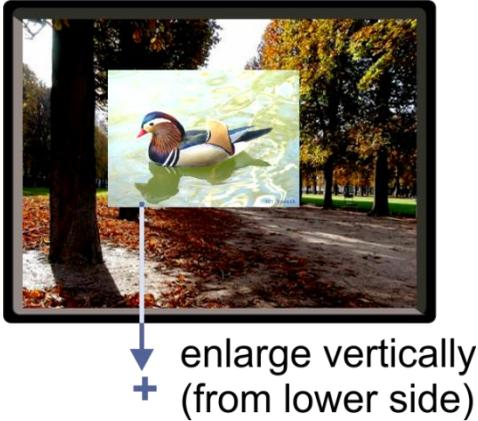

Figure 8: Increasing the Height
4. Select V Height (an OSD slide bar appears) and press + to increase the height, or – to decrease the height, see Figure 8.